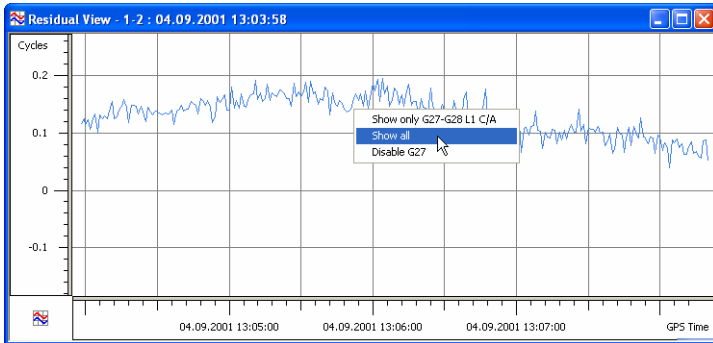

Figure 11-10. Viewing Only One Plot
- To display double difference residuals, select Show Only <name of pair> (Figure 11-10).